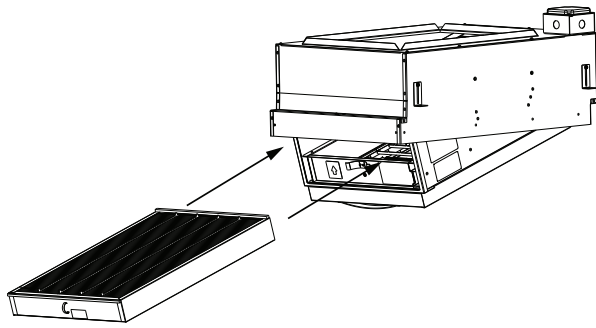

Fig. 18 – Install New Filter Cartridge
4. Install the new filter cartridge (Fig. 18).